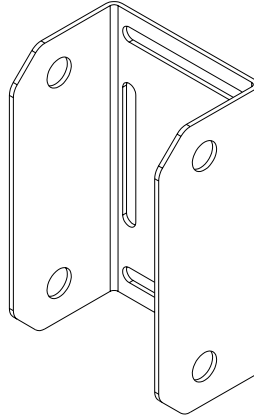

Figure 5 Interrogator mounting bracket
1. Dismantle the mounting bracket shown in Figure 5 from the rear of the Interrogator Unit if not already done.